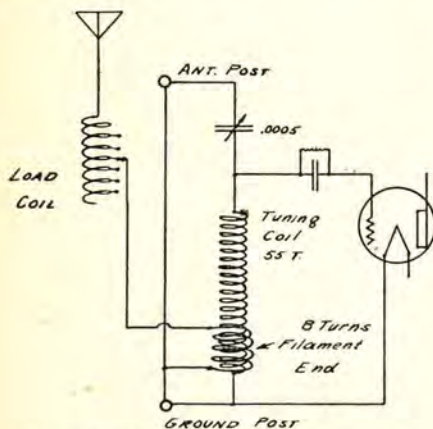

Fig. 2. Improving Selectivity by Adding Untuned Primary.
2. By adding an untuned primary (or untuned primary with load coil) to the single circuit (Fig. 2).
Fig. 2 indicates what is now a common tuning device in many of the multitube sets, such as the various types of neutrodynes, where an untuned primary is wound at the filament end of the coil of 55 turns more or less, which constitute the secondary, the 55 turns being shunted with a .0005 mfd. variable condenser. The number of turns in the secondary must be such that it will cover 220 to 550 meters or else the number must be increased or diminished to reach the desired limit either way.